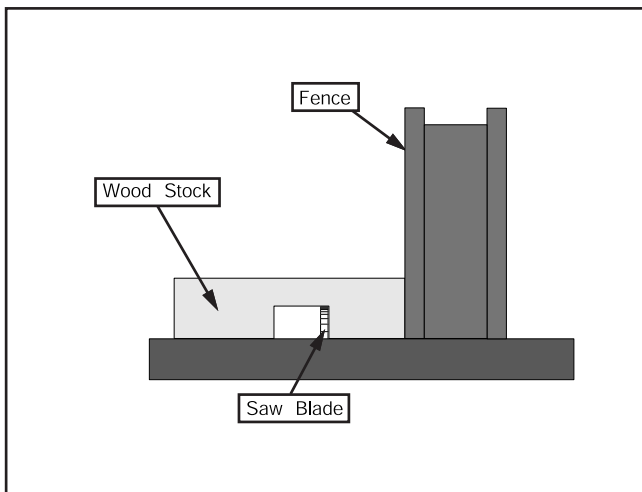

Figure 38. Single-blade dado cut.
3. If the dado runs the length of the material, adjust the fence so the blade is aligned with the inside of your dado channel. See **Figure 38**.